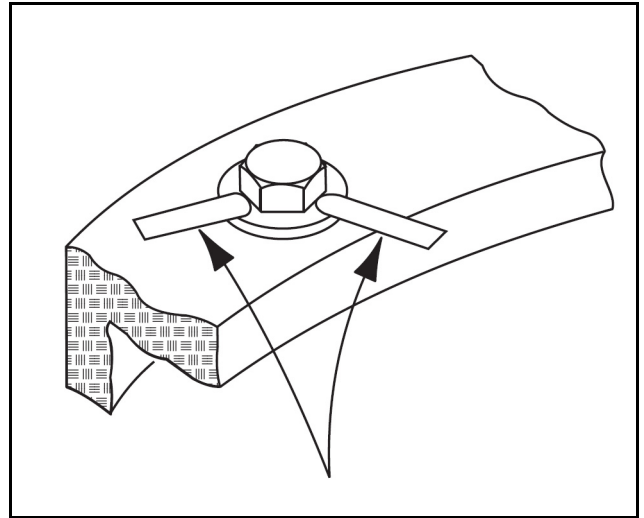

Figure 3-62. Swing Bearing Bolt Feeler Gauge Check
- b. At the positions indicated on Figure 3-62, try and insert the 0.0015 in. (0.0381 mm) feeler gauge between the bolt head and hardened washer at the arrow indicated position.
- d. At the position indicated on Figure 3-62, try and insert the 0.0015 in. (0.0381 mm) feeler gauge between the bolt head and hardened washer at the arrow indicated position.